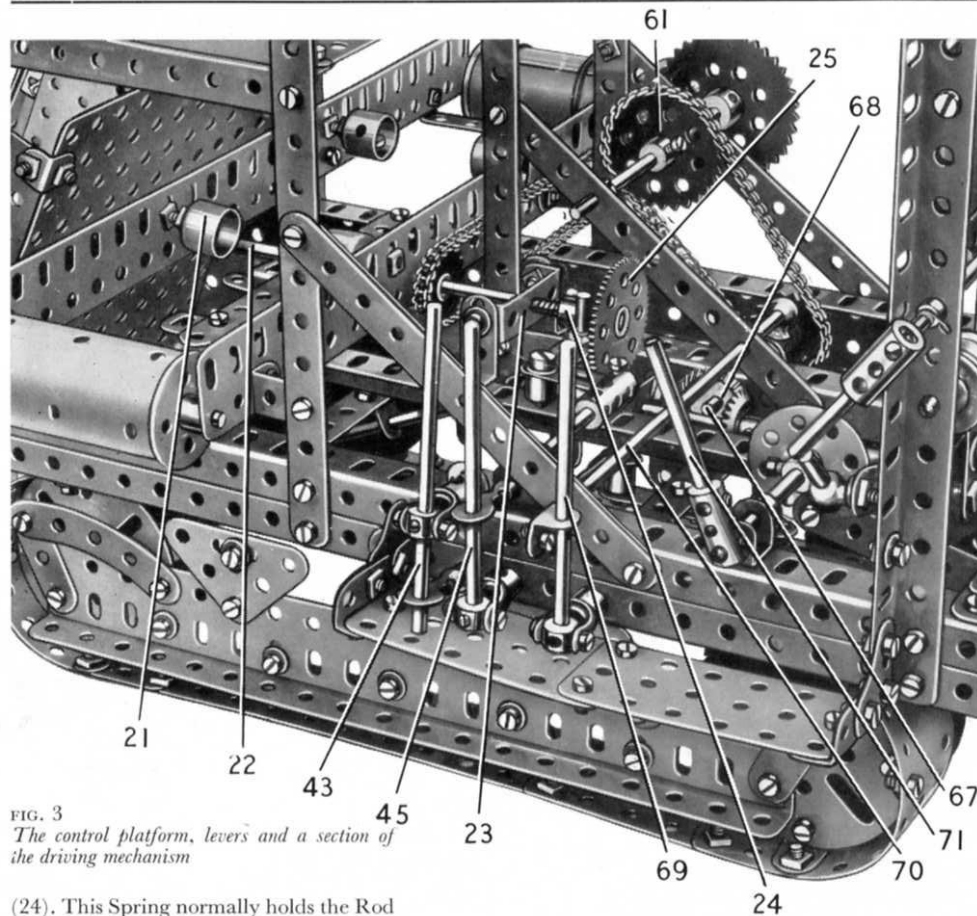
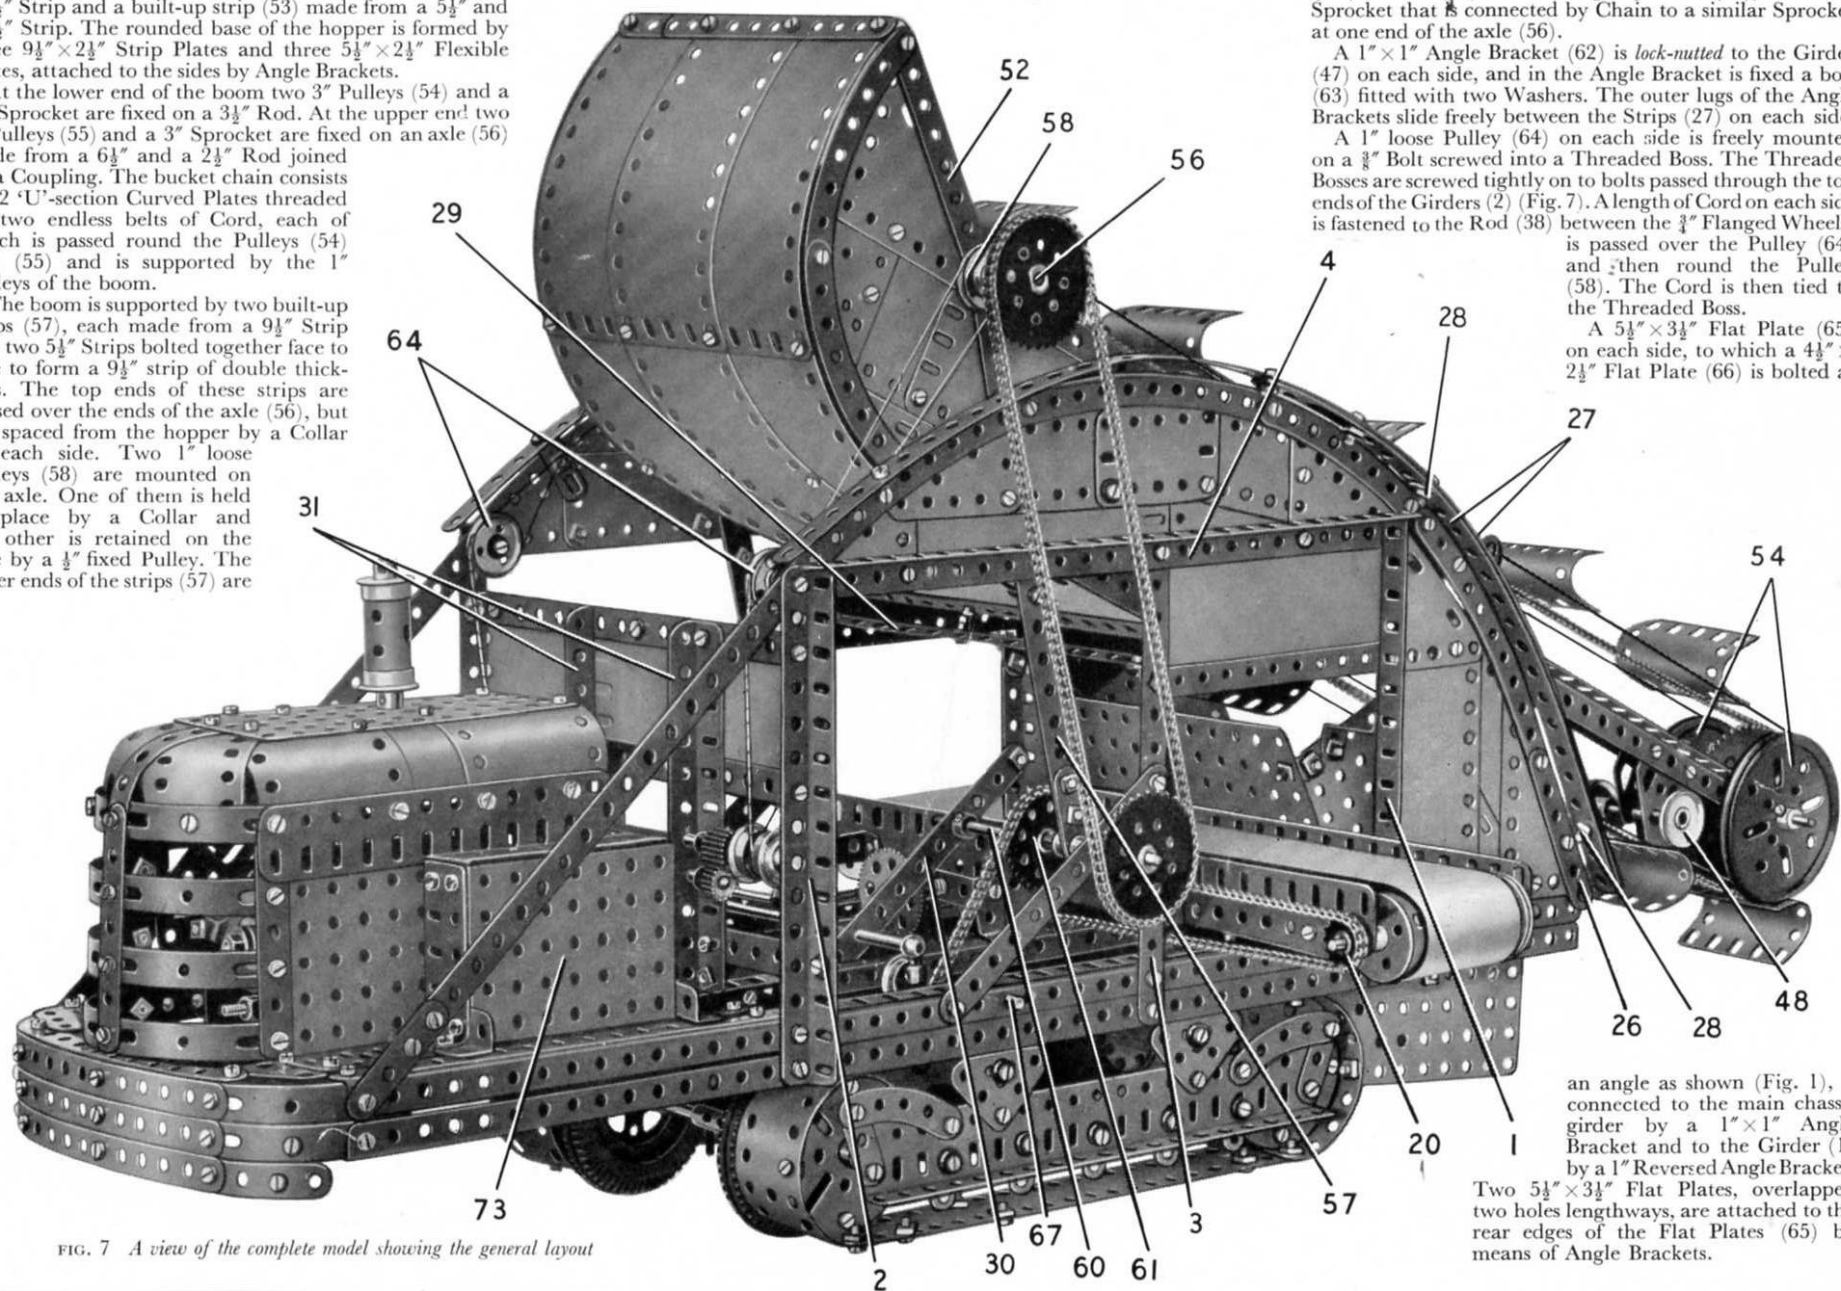

FIG. 3
FIG. 7 A view of the complete model showing the general layout
Each side-member of the chassis consists of two $2\frac{1}{2}$ " Angle Girders arranged to form a channel section girder by bolting to them two $7\frac{1}{2}$ " Angle Girders (1) and (2) and a $7\frac{1}{2}$ " Strip (3) (Fig. 7). The top ends of the Girders (1) and (2) and the Strip (3) are connected by bolting to them a $12\frac{1}{2}$ " Angle Girder (4). The side-members are connected by two built-up strips (5) and (6) (Fig. 2), each made from two $5\frac{1}{2}$ " Strips overlapped seven holes. Two similar built-up strips (7) and (8) are fixed in position, and a further built-up strip (9) (Fig. 3) is bolted across the chassis. The strip (9) is made from two $4\frac{1}{2}$ " Strips overlapped three holes. Two $18\frac{1}{2}$ " Angle Girders (10) are bolted to the strips (5) and (6) as shown.
The Motor switch is operated by a lever (71) (Figs. 3 and 6) formed by a 2" Rod in a Coupling. The Coupling is fixed on a $3\frac{1}{2}$ " Rod mounted in Double Brackets bolted to the chassis, and the Rod carries a Bush Wheel to which a built-up strip is lock-nutted. This strip consists of two $5\frac{1}{2}$ " Strips placed face to face and extended by a $3\frac{1}{2}$ " Strip that overlaps the $5\frac{1}{2}$ " Strips by three holes, and it is lock-nutted also to a Bush Wheel on a $2\frac{1}{2}$ " Rod. The Rod is held by Collars in Flat Trunnions bolted to the Girders (10), and a $2\frac{1}{2}$ " Strip (72) (Fig. 2) is fixed across the Bush Wheel. Another $2\frac{1}{2}$ " Strip is lock-nutted to the Strip (72) and is pivoted at its upper end on a $\frac{3}{8}$ " Bolt screwed into a Handrail Support that is lock-nutted to an arm of the Motor switch.
The conveyor frame consists of two $12\frac{1}{2}$ " Flat Girders, one of which is attached to the Girders (1) (Fig. 7) by $1" \times \frac{1}{2}"$ Angle Brackets while the other is similarly attached to the Strips (3). A $3\frac{1}{2}" \times \frac{1}{2}"$ Double Angle Strip (19) (Fig. 2) is bolted between the Flat Girders at one end.
The main conveyor rollers are formed by $1\frac{1}{4}"$ Flanged Wheels pressed into Cylinders, and each is fixed on a 4" Rod mounted in the Flat Girders. The Rod that supports the driving roller carries a $\frac{3}{4}"$ Sprocket (20) (Fig. 7), and two $2\frac{1}{2}"$ Driving Bands are stretched round this roller. The belt can be made from a length of cloth or strong paper joined together at its ends. The supporting rollers (21) (Fig. 3) are Chimney Adaptors, each of which is free to turn on a $\frac{1}{2}"$ Bolt and is held against the head of the Bolt by two nuts screwed against each other.
The Sprocket (20) is driven by a $1"$ Sprocket on a $6\frac{1}{2}"$ Rod (22) (Fig. 3). This Rod is supported in the conveyor frame and in a $1\frac{1}{2}" \times \frac{1}{2}"$ Double Angle Strip (23) that is attached to $1" \times \frac{1}{2}"$ Angle Brackets bolted to the Girders (10). A Compression Spring is fitted on the Rod between Double Angle Strip (23) and a Collar
(24). This Spring normally holds the Rod so that a 57-tooth Gear (25) on it is kept clear of the Pinion (15) (Fig. 8). The Gear and Pinion can, however, be brought into mesh by sliding the Rod, to engage the drive to the conveyor. The movement of Rod (22) is restricted by a Collar placed inside the conveyor frame, and is controlled by a lever (45) (Fig. 3). This lever is a $3\frac{1}{2}$ " Rod fixed in a Swivel Bearing attached to the chassis by a Pivot Bolt. The lever carries as shown a Rod and Strip Connector fixed on a $3\frac{1}{2}$ " Rod that slides in a Double Bracket bolted to the chassis. A Strip Coupling on the $3\frac{1}{2}$ " Rod is connected by a $\frac{3}{8}$ " Bolt to one arm of a Bell Crank, and this is mounted freely on a Pivot Bolt fixed in one of the Girders (10). The other arm of the Bell Crank carries a Threaded Pin that engages between the Collar (24) and the Gear (25).
A 1" loose Pulley (64) on each side is freely mounted on a $\frac{3}{8}$ " Bolt screwed into a Threaded Boss. The Threaded Bosses are screwed tightly on to bolts passed through the top ends of the Girders (2) (Fig. 7). A length of Cord on each side is fastened to the Rod (38) between the $\frac{3}{4}$ " Flanged Wheels, is passed over the Pulley (64) and then round the Pulley (58). The Cord is then tied to the Threaded Boss.
Drive to the Bucket Chain (Figs. 3, 5, 7 and 8)
A 4" Rod (67) (Fig. 3) is mounted in one of the Girders (10) and in one side of the chassis frame. The Rod carries a $\frac{7}{8}$ " Bevel Gear (68), a 1" Sprocket connected by Chain to the $1\frac{1}{2}$ " Sprocket (61), and a $\frac{3}{4}$ " Flanged Wheel. A Compression Spring is fitted on Rod (67) between the Girder (10) and the Flanged Wheel, and this normally holds the Rod in such a position that Bevel Gear (68) is clear of Bevel Gear (17). The two Bevel Gears can be meshed by moving a lever (69). The lever is a $3\frac{1}{2}$ " Rod held in a Swivel Bearing fixed on a Pivot Bolt bolted to the side of the chassis. An Angle Bracket passed over the lever is lock-nutted to a Rod and Strip Connector on a $6\frac{1}{2}$ " Rod (70) and a Handrail Coupling engages the $\frac{3}{4}$ " Flanged Wheel on Rod (67).
The side of the engine cover seen in Fig. 7 consists of a $5\frac{1}{2}" \times 2\frac{1}{2}"$ Flat Plate and a $5\frac{1}{2}"$ Flat Girder bolted at one end to a $3\frac{1}{2}"$ Strip and at the other end to a $3\frac{1}{2}"$ Flat Girder. The other side is formed by a $5\frac{1}{2}"$ Strip, a $5\frac{1}{2}"$ Flat Girder, a $3\frac{1}{2}"$ Flat Girder, a $3\frac{1}{2}"$ Strip and a $5\frac{1}{2}"$ Braced Girder attached to the $5\frac{1}{2}"$ Strip by two Hinges. A $5\frac{1}{2}"$ Angle Girder extended by a $2\frac{1}{2}"$ Angle Girder is bolted to the lower edge of each side of the engine cover, and these Girders are used to attach the structure to the chassis frame. At one side of the engine cover a box structure (73) is fitted (Fig. 7).